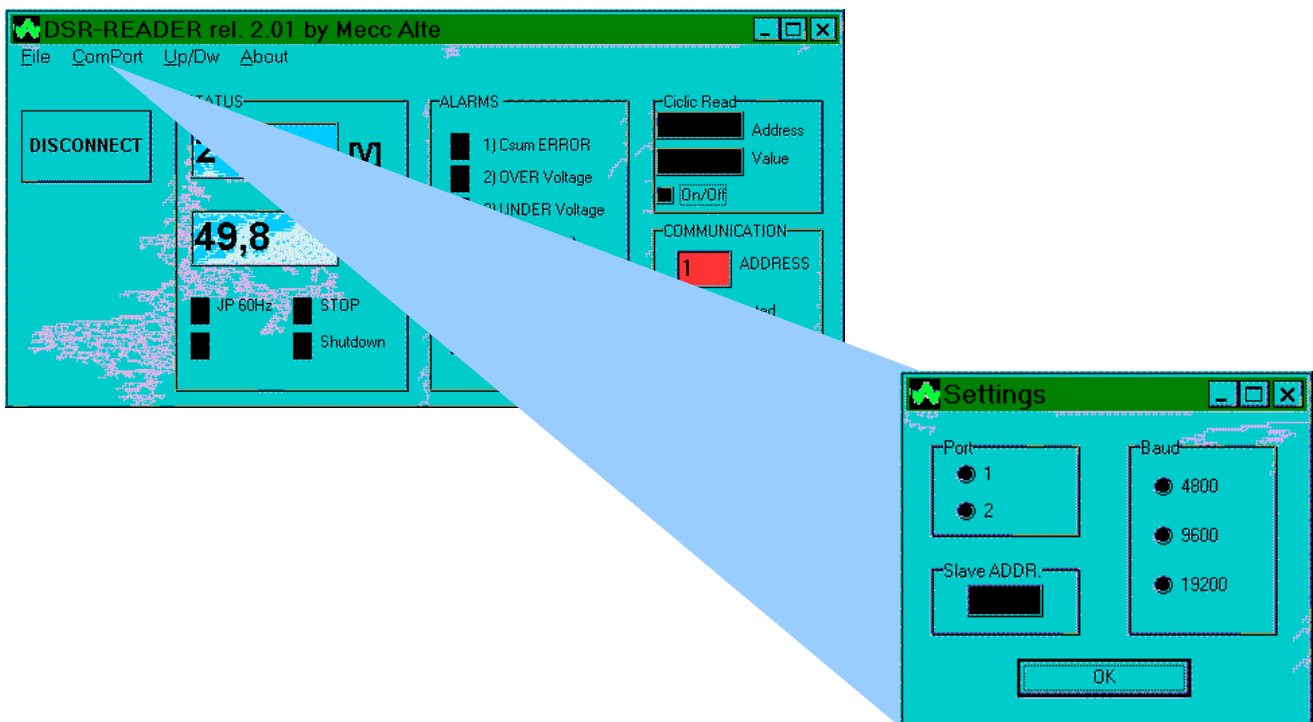

Fig. 17: DSR\_Reader user interface and Settings menu
2. **Settings** opens a window (as shown in figure 17), through which several parameters, concerning communications, can be set: